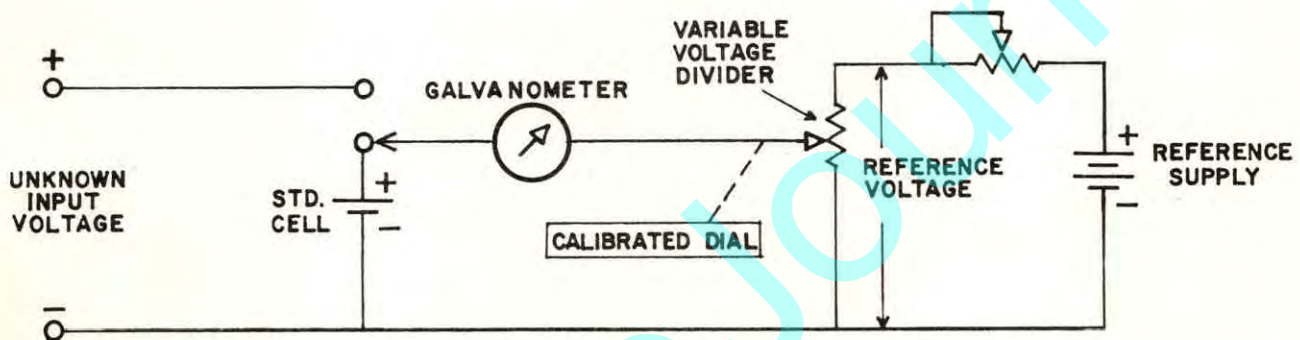

FIGURE 4-2. POTENTIOMETER WITH CALIBRATION RHEOSTAT.
2. MEASURING ABSOLUTE VOLTAGES WITH THE POTENTIOMETER: To measure the absolute value of an unknown voltage, the reference voltage must be known. Instead of accurately measuring the reference voltage directly, it can be adjusted to the proper value if an accurately known voltage is available for use as a calibration reference. In this method, a standard cell of known voltage is connected in place of the unknown voltage (See Figure 4-2), the variable voltage divider dial reading set to this known voltage, and the voltage across the variable voltage divider adjusted by means of the rheostat R_c to obtain balance. The potentiometer is now "calibrated," or "standardized," and ready for use as an absolute voltage measuring device. This